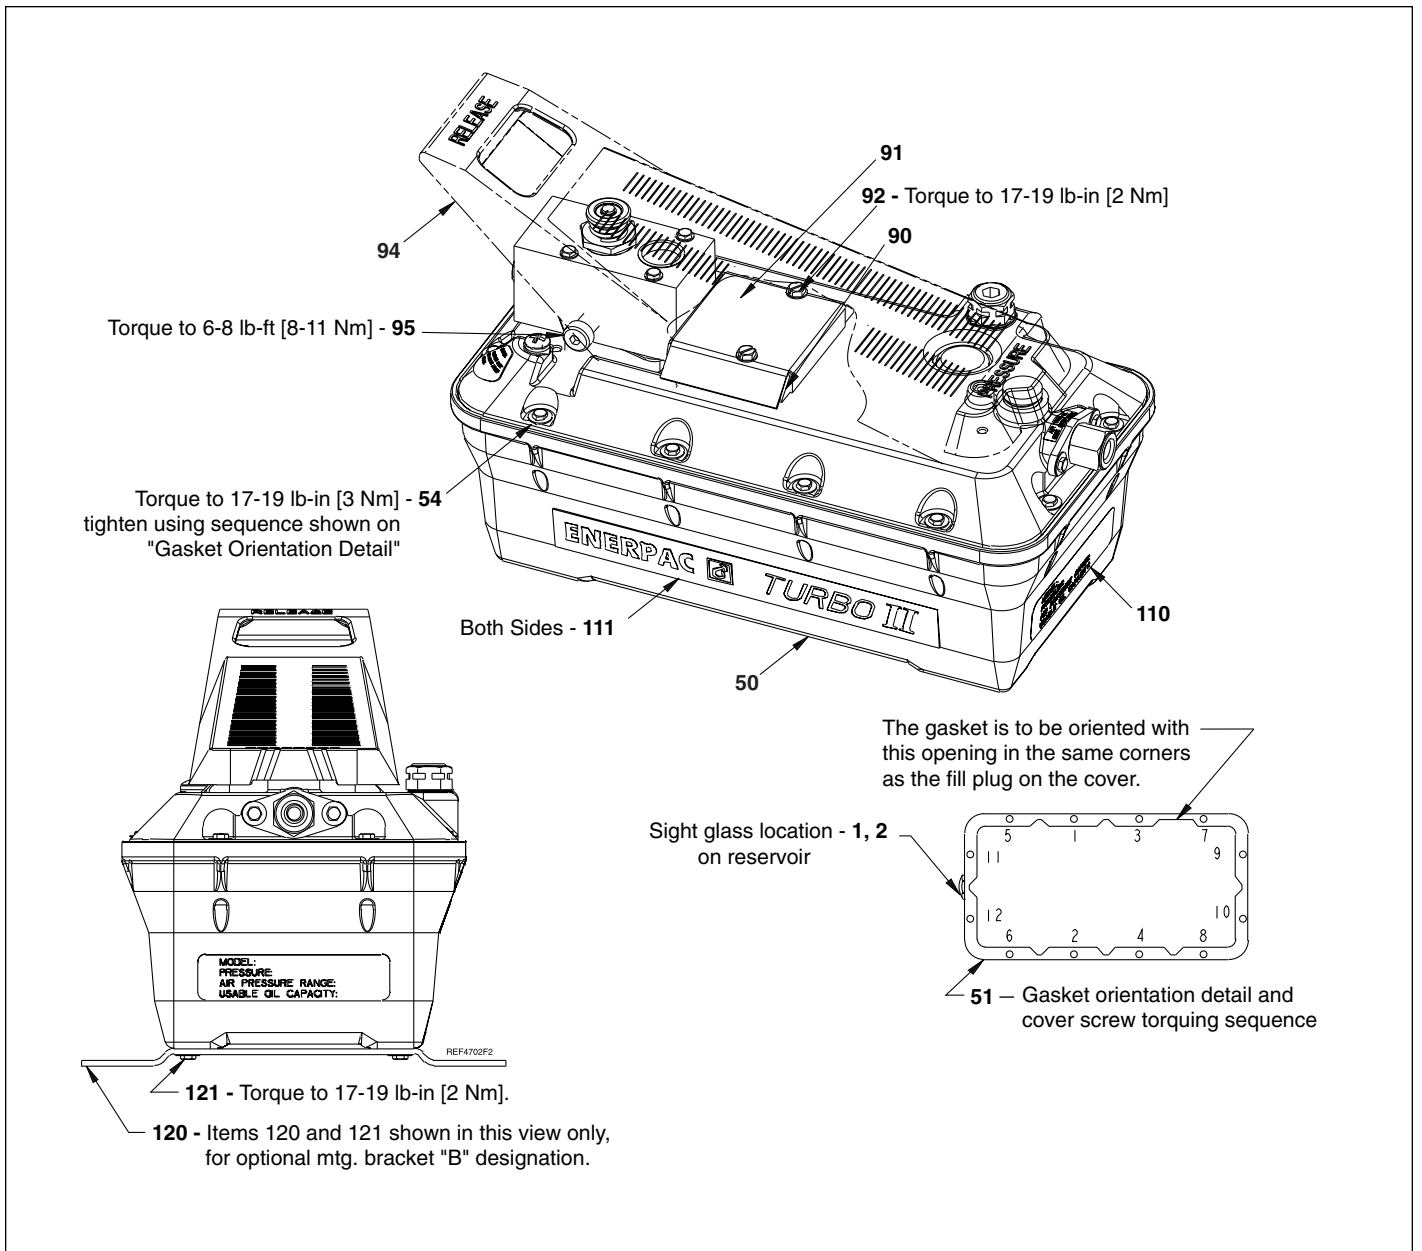

Figure 1
5. Replace pump cover. See Figure 1 for gasket orientation detail and cover screw torquing sequence.
Repair Parts List for Figure 1